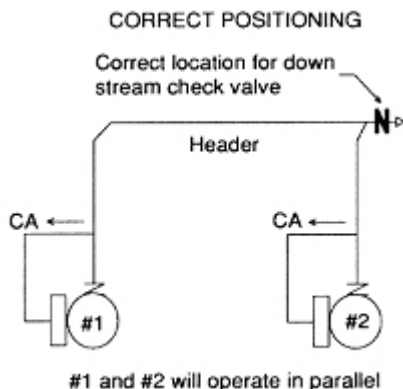

Figure 5.6
Number 1 will control the pressure in the pipe between its CA line and the downstream check valve but will not contribute flow to the system. Attempts to control this situation with setpoint pressure results in just switching the no-control problem from one machine to the other. In Figure 5.6 , the check valves are correctly positioned where both compressors are sensing the header pressure. Any downstream check valves in parallel compressor installations must be located, so they will not interfere with the compressor control pressure sensing (CA) ability.